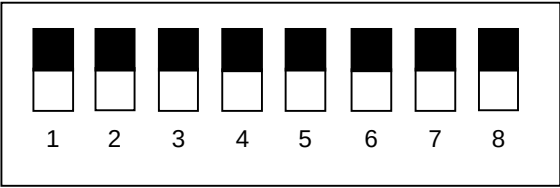

Figure 6.9.2 DIP switches (Being set for Standard setting)
- (2) Perform as the procedure shown below.
(3) Set the DIP switch No.4 as shown in Figure 6.9.2.